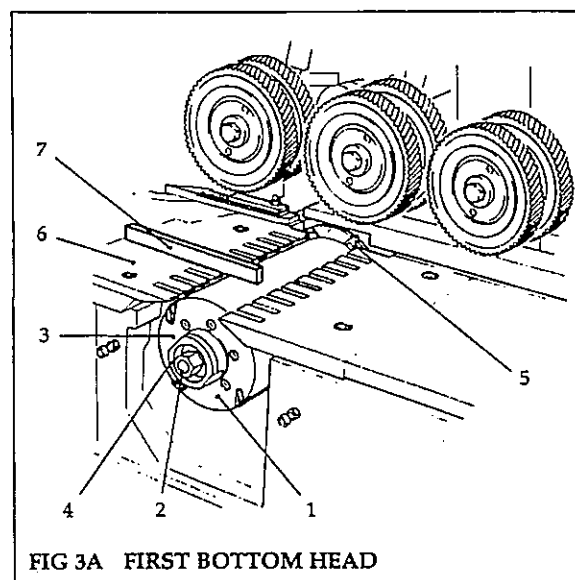
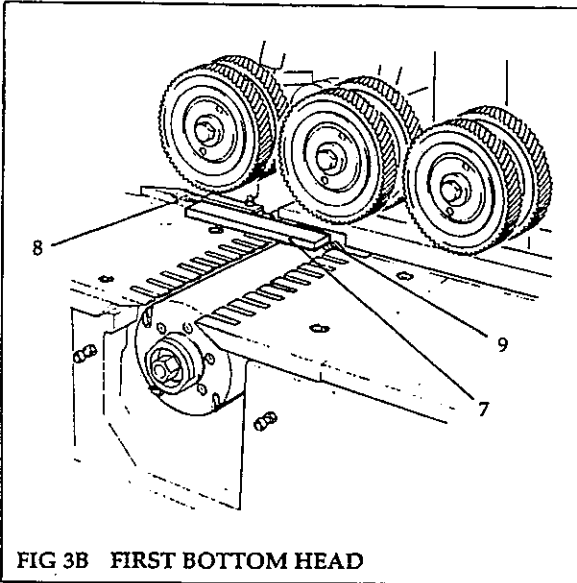

FIG 3A FIRST BOTTOM HEAD
FIG 3B FIRST BOTTOM HEAD
First Bottom Head (Fig 3A, Fig 3B)
- (1) Ensure the machine bed is clean.
- (2) Using a straightedge (1) as in setting up the First Bottom Head, set the cutter height by adjusting cutterblock (2). The blades of the cutter should just touch the underside of the straightedge, (see Fig 3A).